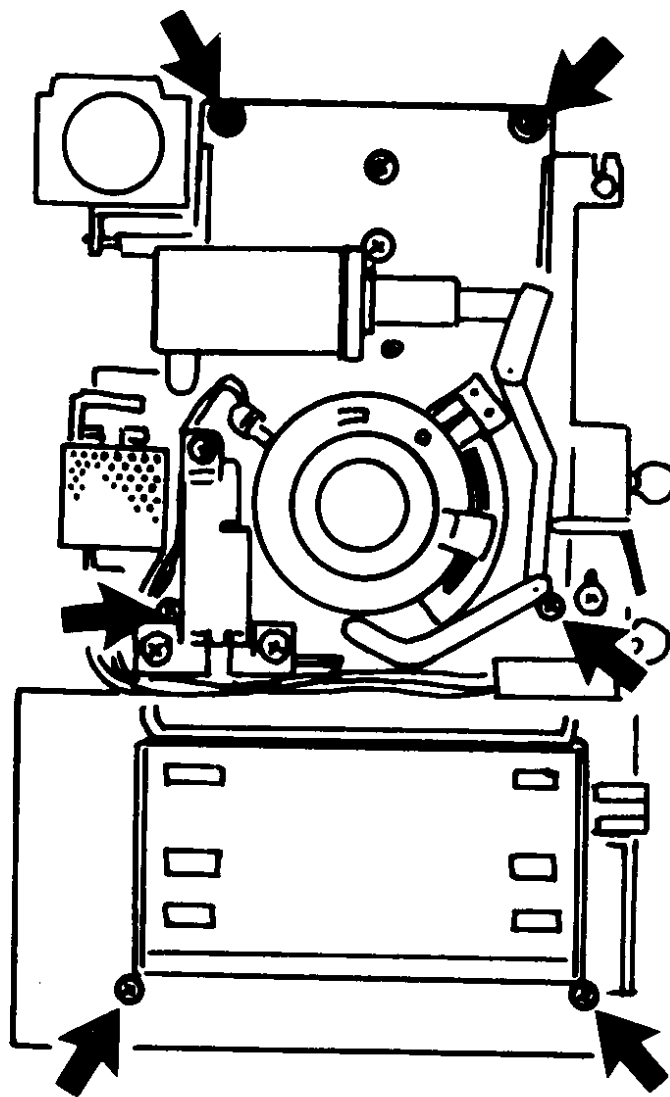

Figure 4-29 Removing Baseblock from Main Frame
- 1.2 Removesix screws holding Baseblock to Main Frame, exposing Data Flashtubes on opposite side of Baseblock. (Fig. 4-29)